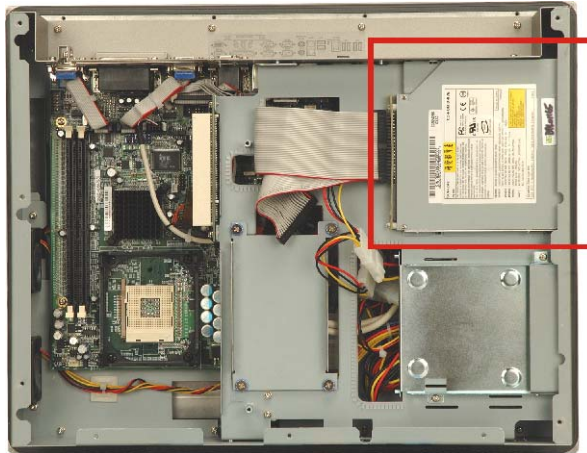

Figure 3-10: CD Drive Installed
- Step 10:** Connect the CD ribbon cable and the power cable from the connectors on the motherboard and the PSU to the rear of the CD drive. **Figure 3-10** shows a properly installed CD drive.